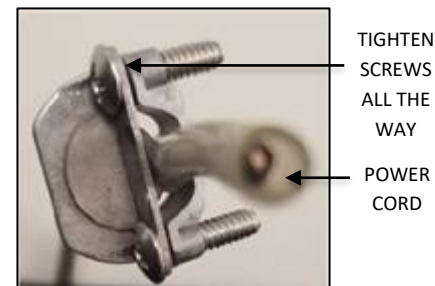

FIG. 28 – STRAIN RELIEF WITH CORD INSERTED
- Insert CORD through the STRAIN RELIEF and tighten two SCREWS on the STRAIN RELIEF above the all-thread where marked. If screws are not properly tightened CORD could slip; through the STRAIN RELIEF, causing the fixture to fall. see detail as shown in FIG.28.